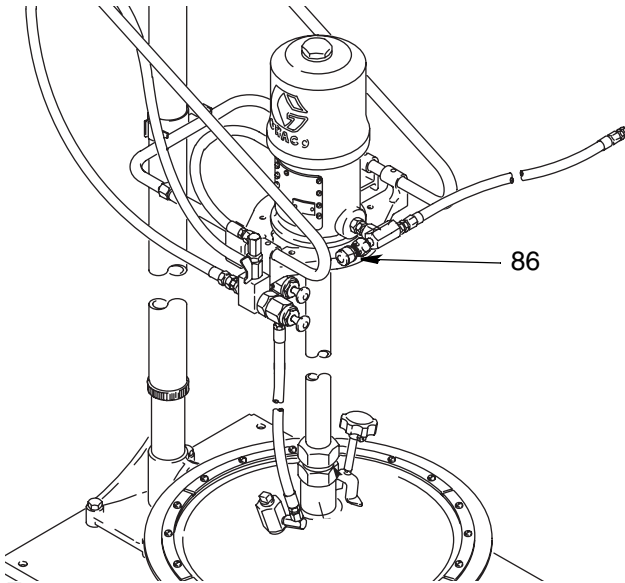

FIG. 4
1. Mount the pump support bracket (86). (FIG. 4)